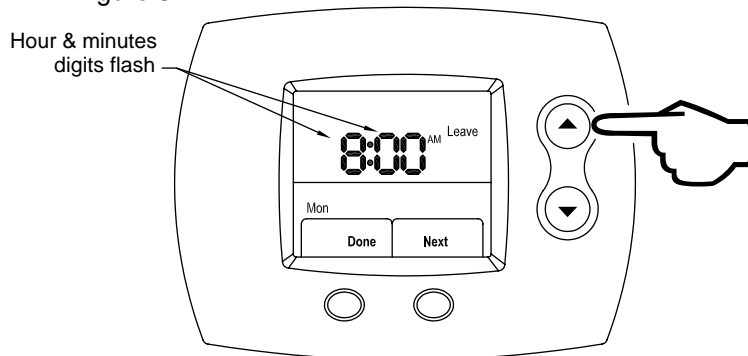

Figure 84
Step 10: Press the **UP** (increase time by 15 minutes) or **DOWN** (decrease time by 15 minutes) buttons to edit the Leave period start time. The time increments in 15-minute intervals just as it did for the Wake period. This is shown in Figure 84.